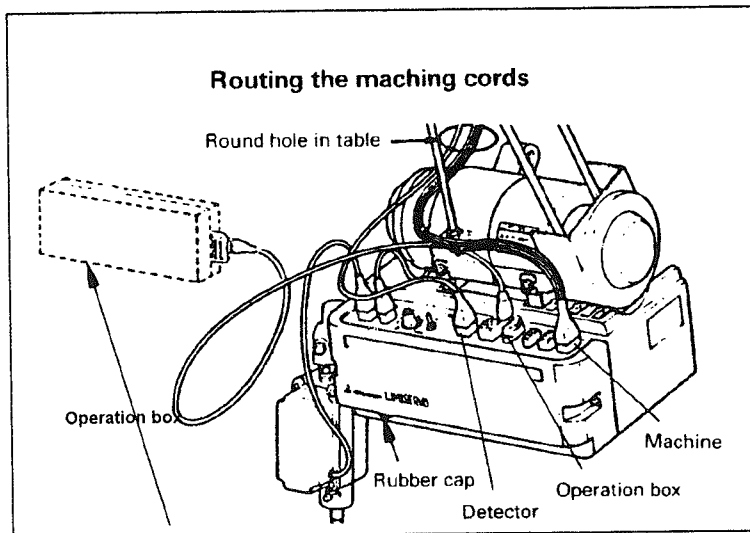

Fig.3
To change motor rotation direction, remove the rubber cap (see Fig. 3) at the bottom left of the motor front cover and push the internal direction selector switch.
6. Connection of control box (Fig.3):
The control box should be connected as shown Fig.3.